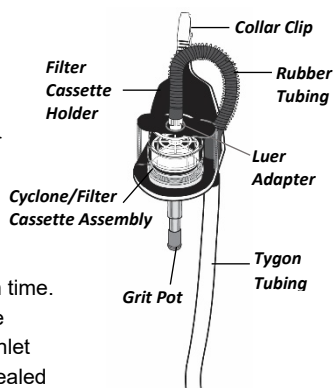

Figure 3.
4. Insert cyclone/cassette assembly through large opening of filter cassette holder (see *Figure 3*). Ensure assembly is seated firmly in holder by inserting cyclone's side pin (small round nodule on rim of cyclone) into notch in filter cassette holder.